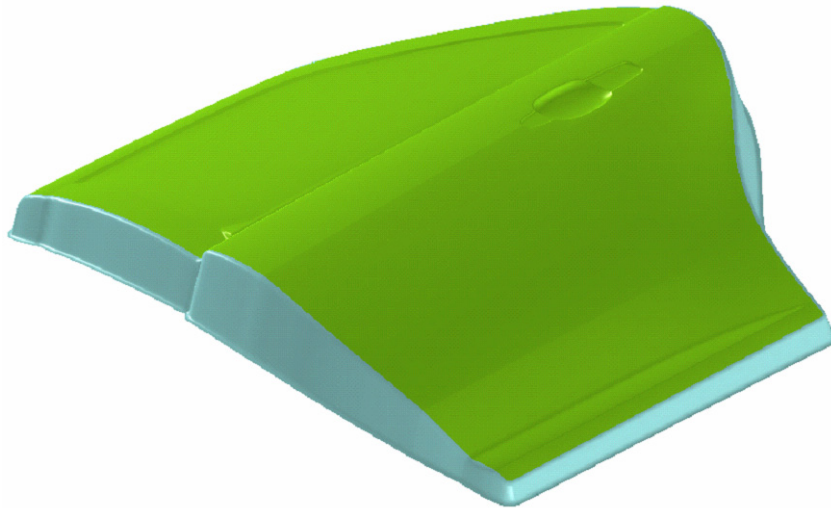
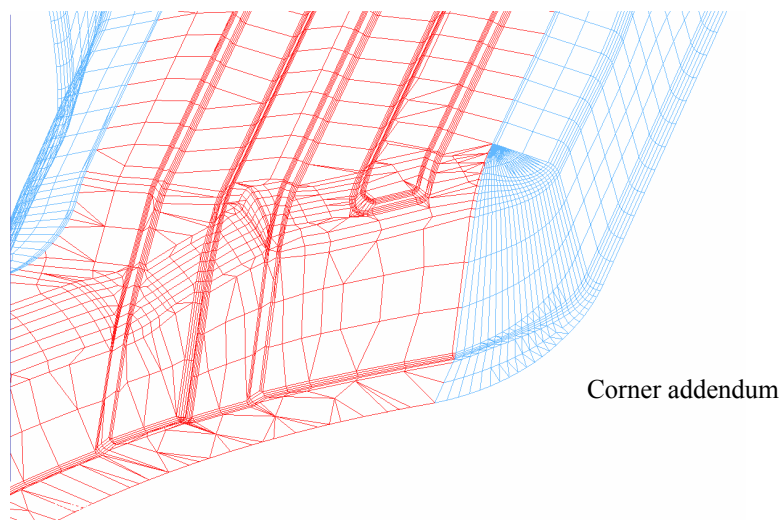

Figure 6.3.15 Create the entire Addendum by a master profile
Figure 6.3.20 Generated corner addendum
If **BY SEGMENT** is toggled off, clicking the **APPLY** button will create the addendum around the entire outer boundary. Figure 6.3.15 illustrates a typical complete addendum of a part.
4. The **APPLY** button in Figure 6.3.15 is activated. Click **APPLY** to generate the corner addendum as shown in Figure 6.3.20.